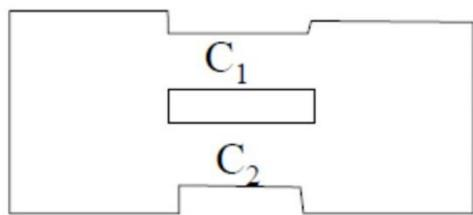

Figure 1 Vacuum system setup in (a) series and (b) parallel.
- (c). Calculate the total conductance for vacuum chamber setup as shown in Figure 1. Given $C_1 = 5 \times 10^{-5}$ $\text{Torr}^{-1}\text{s}^{-1}$ and $C_2 = 1.5 \times 10^{-5}$ $\text{Torr}^{-1}\text{s}^{-1}$.